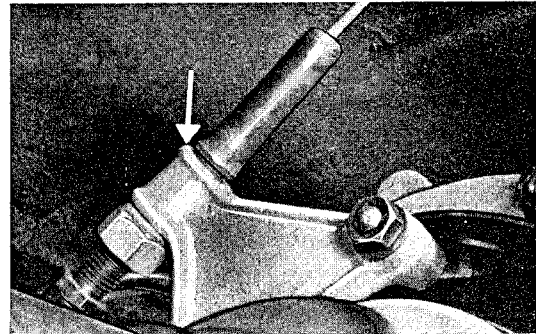

Fig. 278
7. Insert the end of the flexible cable housing into the bracket on the gearbox so that at least three threads on which the rubber dust cap can be mounted protrude from the bracket (Fig. 278).